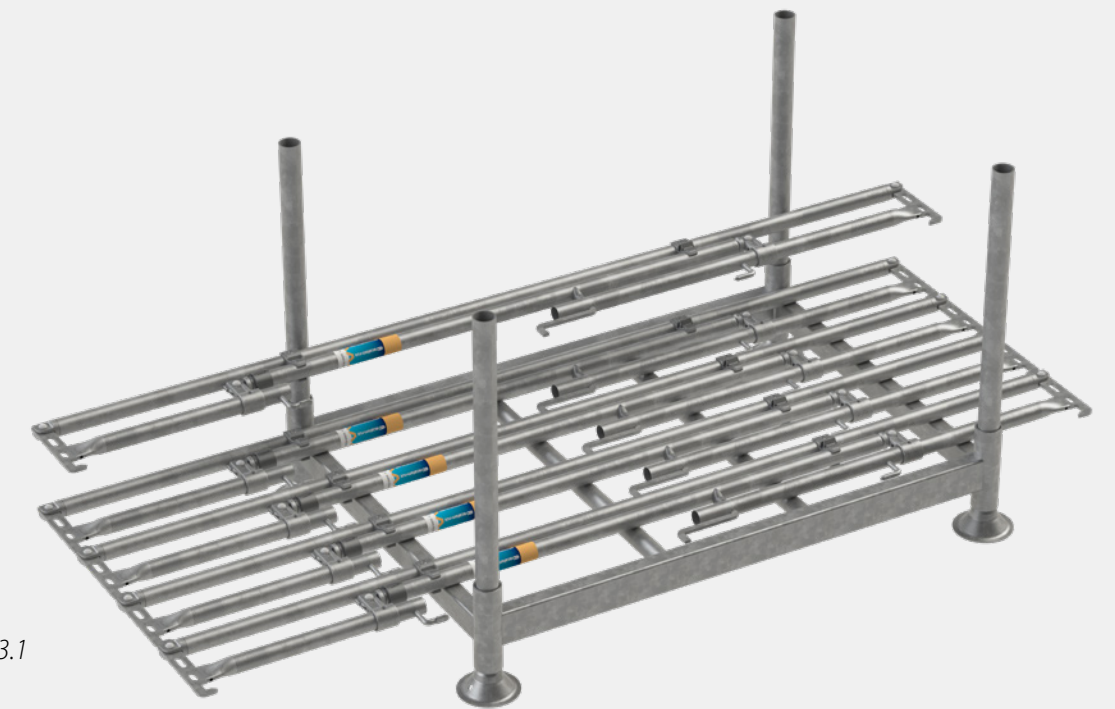

Figure 2.3.1
2.1.3 Each PAG has two plastic stacking clips. These stacking clips not only hold the PAG in place when folded, but also help to stack the guardrails on top of each other. One side of the stacking clip has a recess while the other side has a protrusion. When the guardrails are stacked on top of each other, the protrusion is placed exactly in the recess, preventing the guardrails from sliding over each other (see figures 2.3.1, 2.3.2, 2.4.1 and 2.4.2).